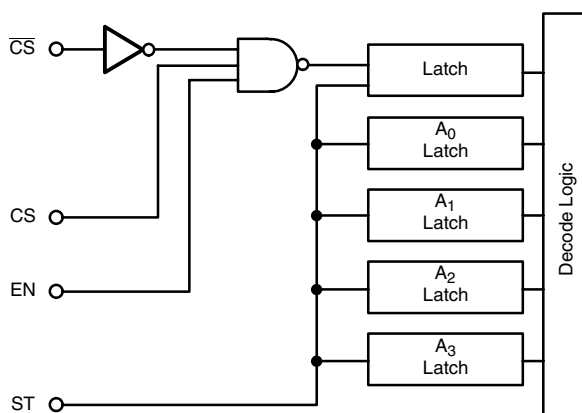

Figure 11. \overline{CS} , CS, EN, ST Control Logic
All four address inputs have on-chip data latches which are controlled by the Strobe (ST) input. These latches are transparent when Strobe is high but they maintain the chosen address when Strobe goes low. To facilitate easy microprocessor control in large matrices a choice of three independent logic inputs (EN, CS and \overline{CS}) are provided on chip. These inputs are gated together (see Figure 11) and only when $EN = CS = 1$ and $\overline{CS} = 0$ can an output switch be selected. This necessary logic condition is then latched-in when Strobe (ST) goes low.